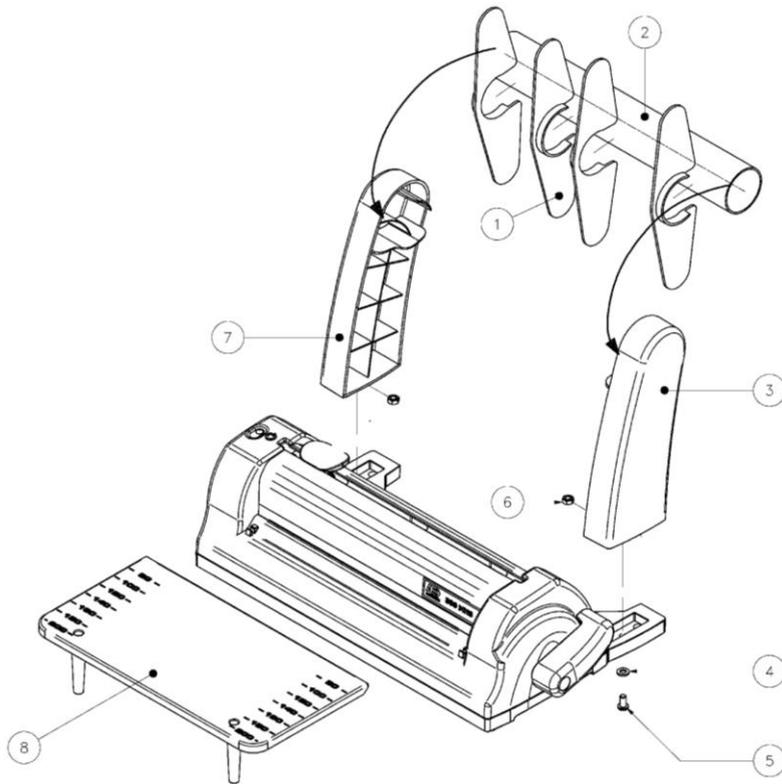

fig. 3 Mounting the spindle to the work table
Slit the work table (8) in the grooves of the machine (see fig. 3).
Insert the cutter (with the blade) into the cutter guide groove at the top of the machine. (see fig. 3).